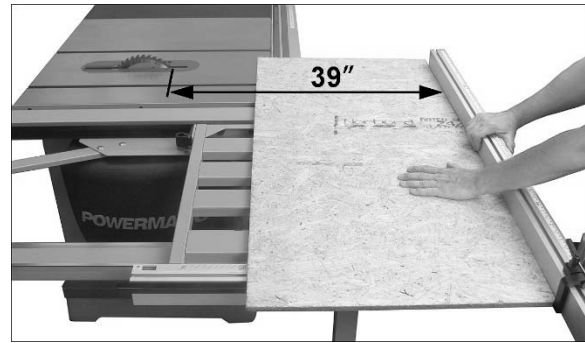

Figure 9-1
With fence in front position, cutting capacity is 39-inches. See Figure 9-1.
5. Hold panel securely against fence with one hand, while pushing the fence with the other. See Figure 9-1.